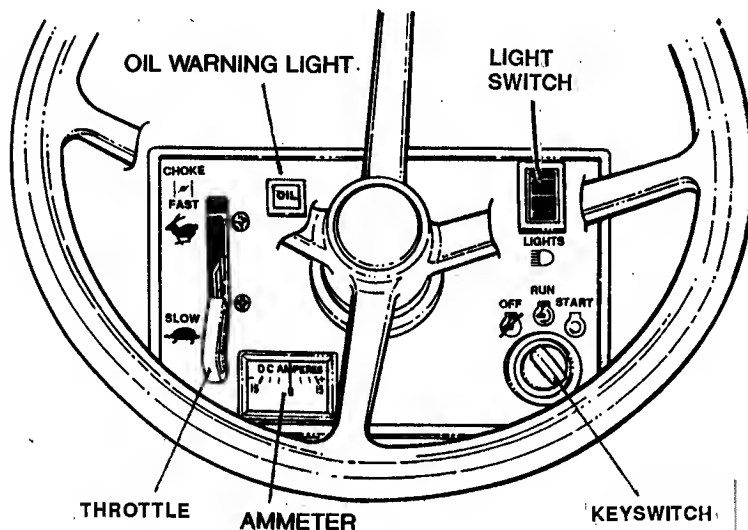

FIGURE 2
**ENGINE:** *STOP ENGINE* by turning the KEYSWITCH to "OFF". See Figure 2.
2. CHOKE ENGINE for cold starting by moving THROTTLE CONTROL to "CHOKE" position. (Little or no choking will be needed when restarting a warm engine). Refer to Figure 2.